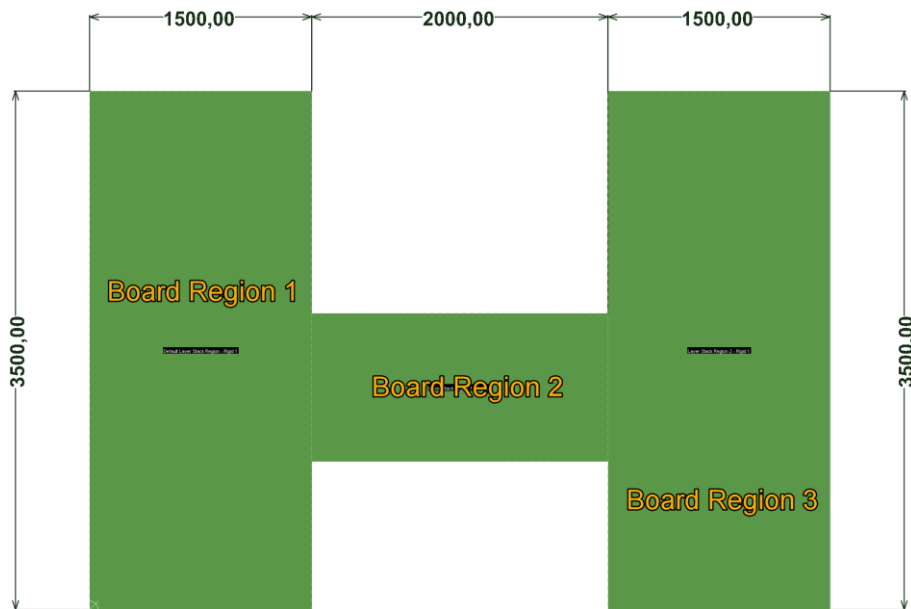

Figure 4. Defining the third Board Region
10. Use the command **Place » Board Region** to create a third board region with the dimension 1500mil x 3500mils, as seen in Figure 4.